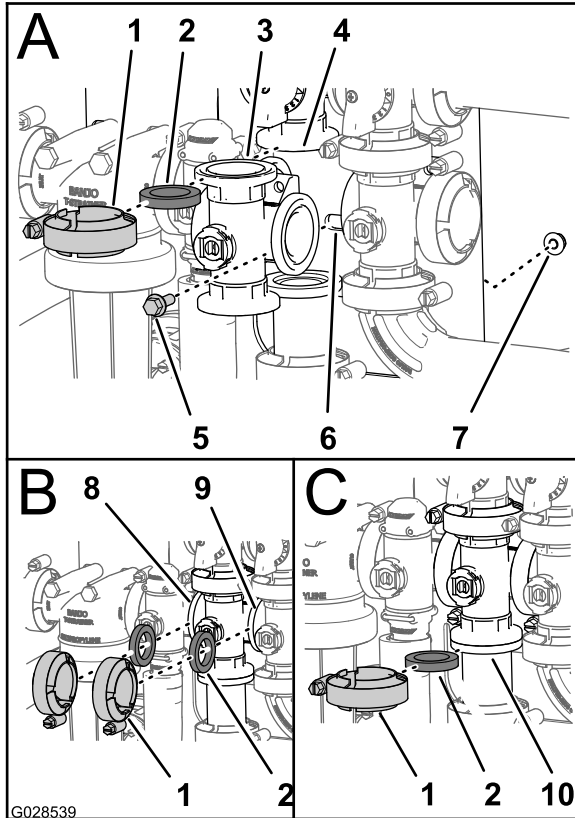

Figure 62
1. Align the flange of the agitation valve manifold, 1 gasket, and the flange of the agitation bypass valve (A of Figure 62).
5. Align a 1 gasket between the flanges of the agitation valve manifold and the master boom valve (B of Figure 62).
6. Assemble the agitation valve manifold, gasket, and master boom valve with a clamp tightened hand tight (B of Figure 62).
7. Align a 1 gasket between the flanges of the agitation valve manifold and the adapter fitting for the agitation throttle valve (C of Figure 62).
8. Assemble the agitation valve manifold, gasket, and adapter fitting with a clamp tightened hand tight (C of Figure 62).
2. Assemble the agitation bypass valve, gasket, and agitation valve manifold with a clamp tightened hand tight (A of Figure 62).
3. Align a 1 gasket between the flanges of the rate control valve and the agitation valve manifold (B of Figure 62).
4. Assemble the rate control valve, gasket, and agitation valve manifold with a clamp tightened hand tight (B of Figure 62).